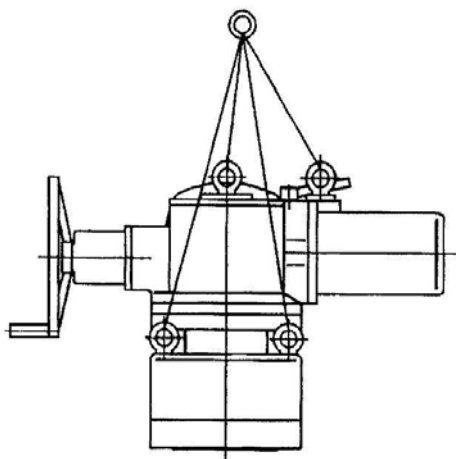

图 15 ZC350~1000BZ 起吊示意
Fig.15 lifting sketch map of ZC350~ZC1000
4. 起吊 ZC350-1000BZ 型阀门电动装置时,按图 15 所示操作。
o lift Type ZC350-1000BZ electric valve actuator,operate as shown in the Figure 15.